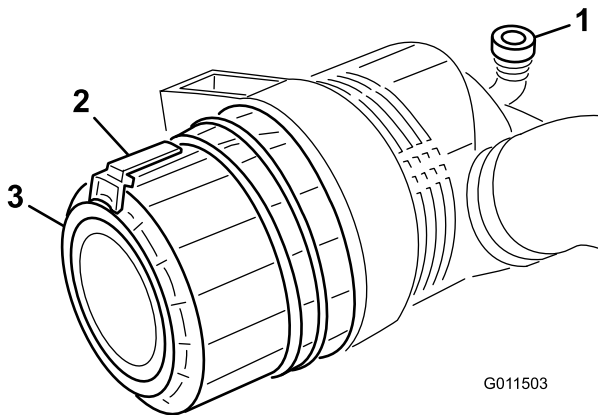

Figure 55
1. Pull the latch outward and rotate the air cleaner cover counterclockwise (Figure 55).